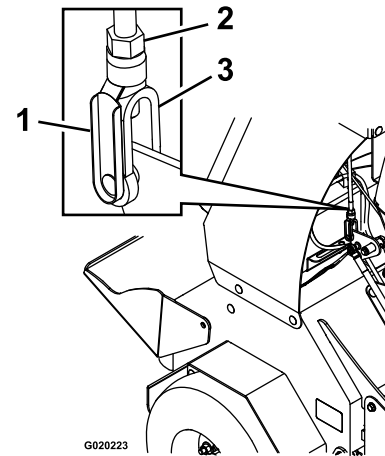

Figure 53
- If the control lever **contacts the reference bar**, rotate the fork fitting (Figure 53) counterclockwise (as viewed from the top of the machine).
- If the control lever **does not contacts the reference bar**, rotate the fork fitting (Figure 53) counterclockwise.
- D. Install the spring clevis pin (Figure 53) and move the control lever forward.
- F. Remove the spring-clevis pin, rotate the turnbuckle clockwise 1-additional turn, and insert the spring-clevis pin (Figure 53).